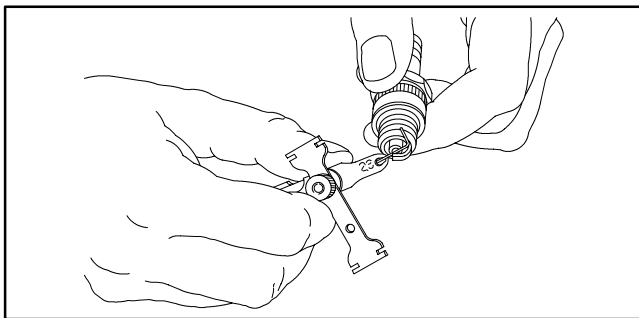
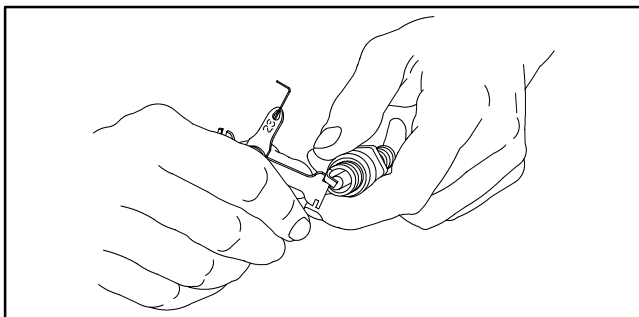

Figure 2-6 Checking the Spark Plug Gap
Figure 2-7 Adjusting the Spark Plug Gap
3. Check the spark plug gap using a wire feeler gauge. Adjust the gap to 0.76 mm (0.030 in.) by carefully bending the ground electrode. See Figure 2-6 and Figure 2-7.